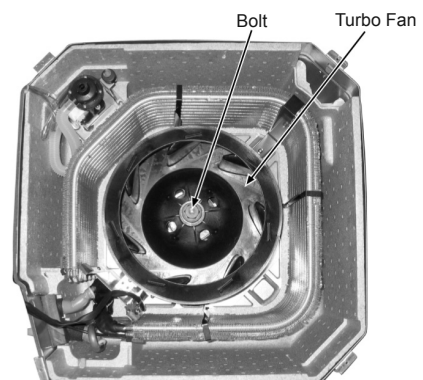

Fig. 7
- 7 Remove the Turbo Fan by removing the bolt (Fig. 7).